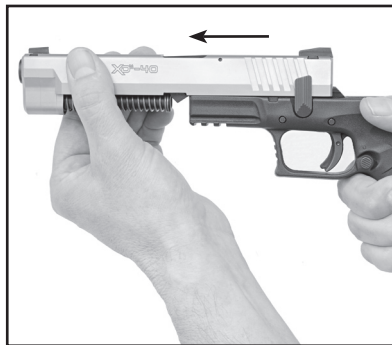

Figure 24-2
7. Move the complete slide assembly forward and off the frame (See Figure 24-2.)